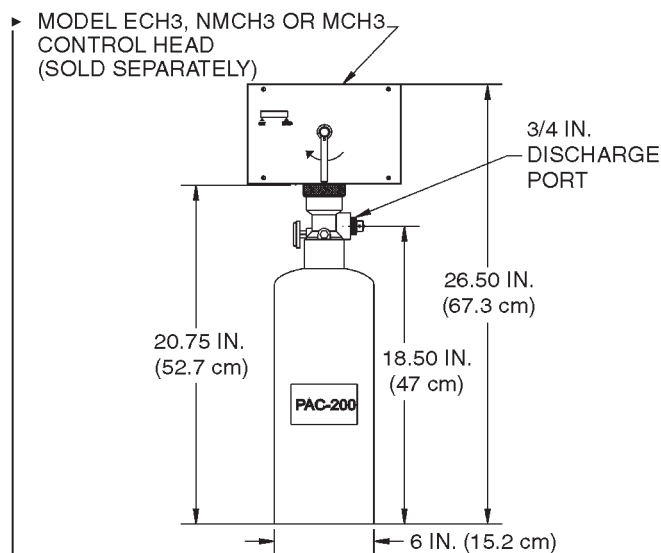

Figure 2-9. Model PAC-200 Pneumatic Actuating Cylinder.
The Model PAC-200 is a pneumatic actuating cylinder that can actuate a maximum of twenty (20) agent cylinders simultaneously. The Model PAC-200 includes a DOT 4BA350 cylinder pressurized with dry nitrogen to 350 PSIG @ 70° F., a brass valve with pressure gauge, and a wall mounting bracket. A Model MCH3, NMCH3 or ECH3 control head must be purchased separately and connected to the PAC-200 to open the valve. **See Figure 2-9.**